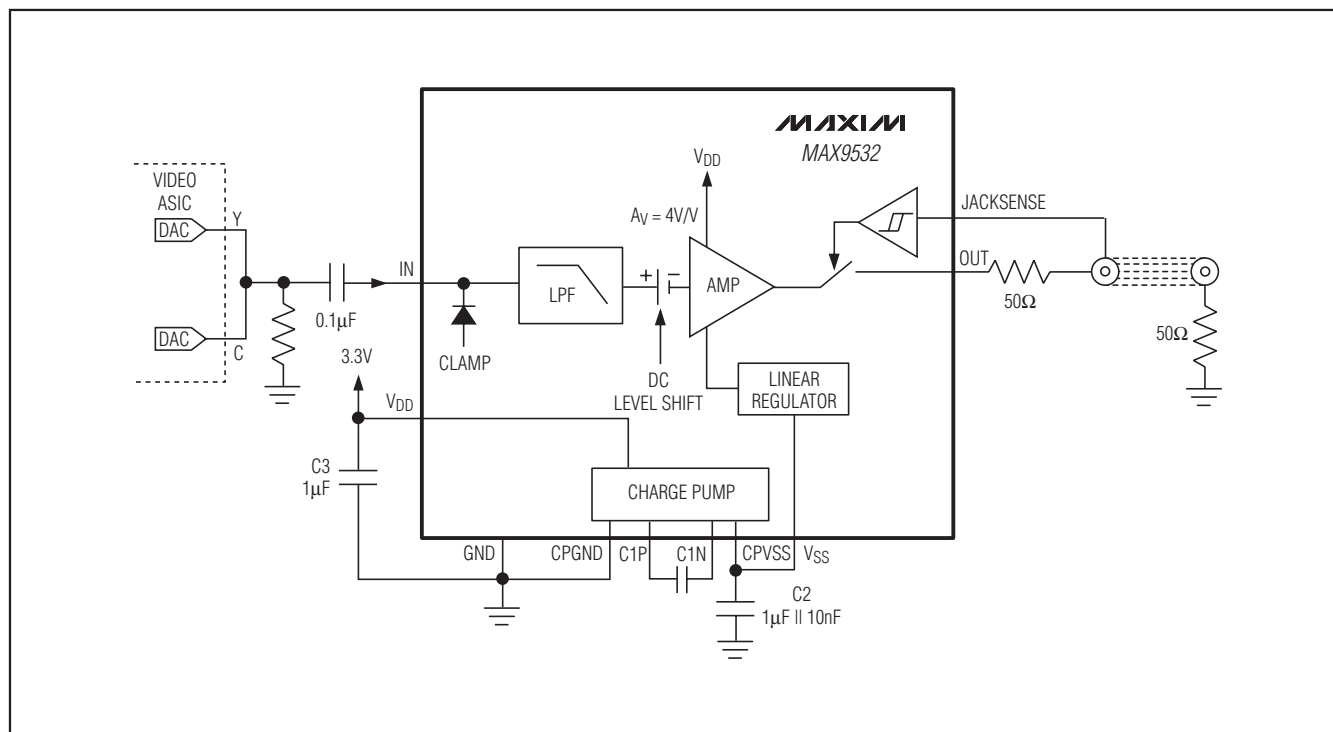

Figure 5. Luma (Y) and Chroma (C) Signals are Added Together to Create a Composite Video Signal, Which is AC-Coupled into the MAX9532
In some applications, the video source generates a signal with a positive DC voltage bias, i.e., the sync tip of the signal is well above ground. Figure 5 shows an example in which the outputs of the luma (Y) DAC and the chroma (C) DAC are connected together. Since the